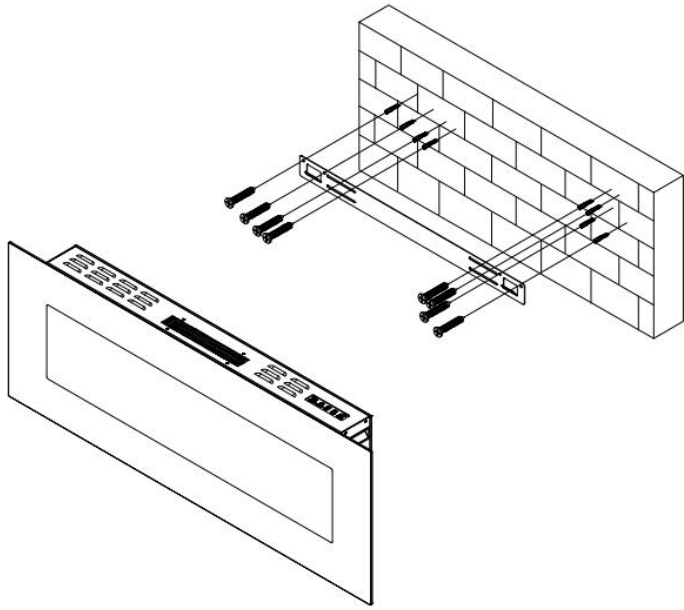

Fig.3
- Carefully lift up the heater ensuring the top rear ledge of the heater engages with the wall bracket(see Fig.3) and is sitting centrally. This process should be carried out by two people to avoid injury or damage to property or the appliance.